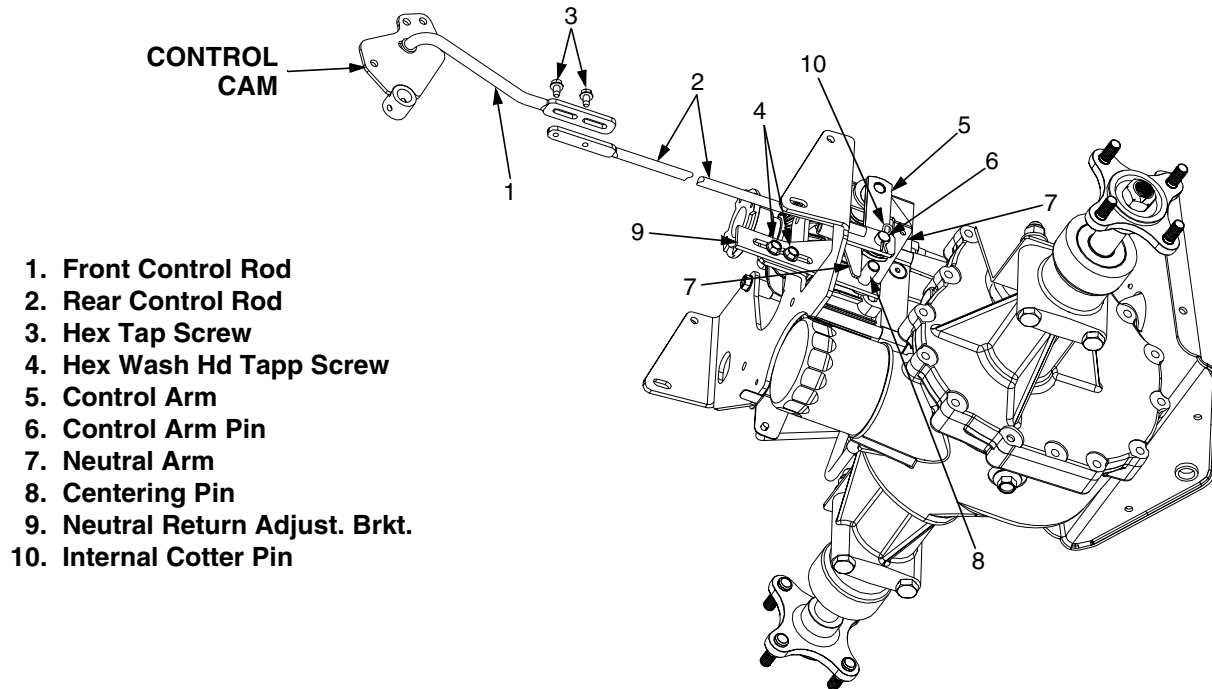

Figure 15.
- If wheel rotation is observed, refer to Figure 15 and adjust the neutral setting as follows:
- Disconnect the rear control rod (2) from the control arm (5) by removing the internal cotter pin (10) from the control arm pin (10).
- If wheel rotation continues, loosen the two hex wash. hd. tapp screws (4) securing the neutral return adjustment bracket (9).
- If the rotation is in the *forward* direction, slide the neutral return adjustment bracket w/ centering pin (8) rearward until the wheels just begin to rotate in the *reverse* direction. Then slowly slide the neutral return adjustment bracket w/centering pin slightly forward until wheel rotation stops.
- Carefully tighten the hex wash. hd. tapp screws (4), making certain the neutral return adjustment bracket does not move.
After completing the previous steps (1 thru 4) for checking neutral setting, refer to Figure 15 and adjust the control rod as follows: